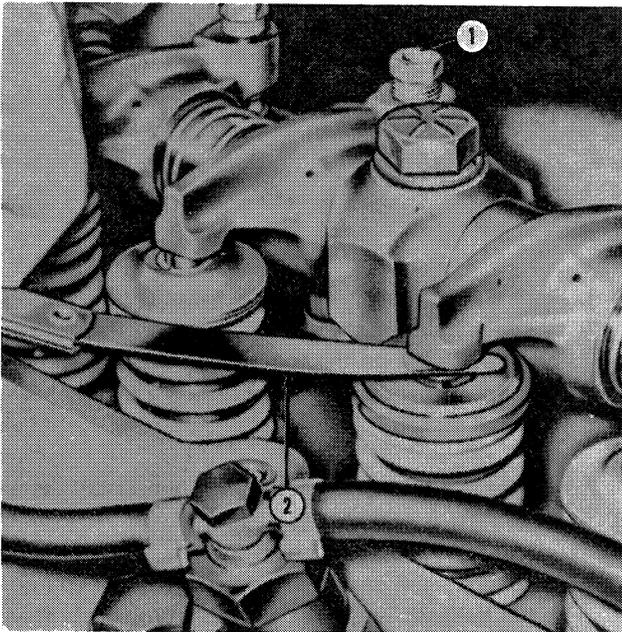

Figure 21
6. Rotate the engine and set the preliminary valve lash, Figure 21, to the specified limits, page 69.